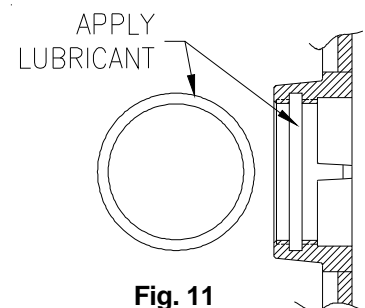

Fig. 11
11. Using the o-ring seal and lubricant bag, ensure the o-ring and coupling are well lubricated. Insert the o-ring, ensuring it does not twist. See Fig. 11